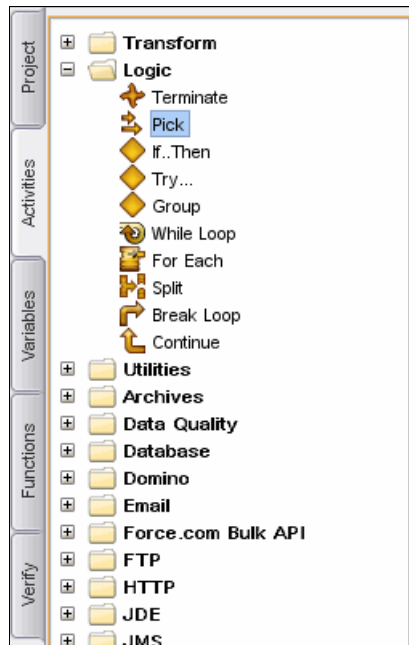

Figure 11-18 The Pick activity in the Logic section of the Activities tab
2. Go to the Activities tab, and expand the **Logic** section, as shown in Figure 11-18.